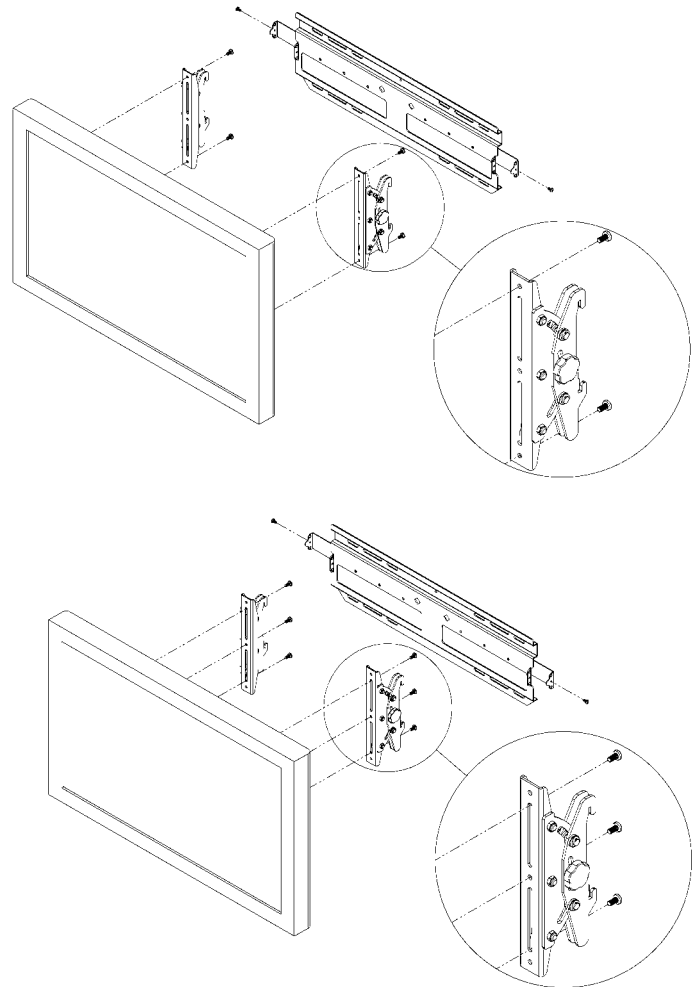

Figure 2. Install Brackets on Display
1. Place the interface brackets (20 and 30) on the back of the display, aligning the holes with the mounting inserts (See Figure 2).
2. Secure the left and right interface bracket assemblies (20 and 30) to the display using screws (40).